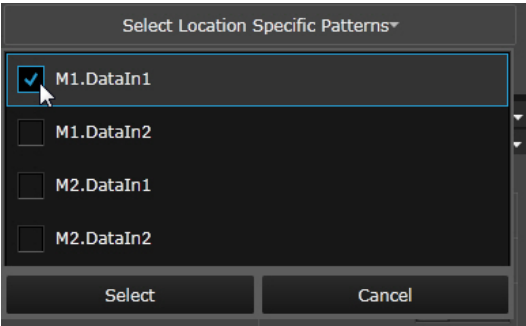

Figure 39 Select module/channel number
- d Select **M1.DataIn1** then click on the **Select** button as shown in Figure 39 on page -85.